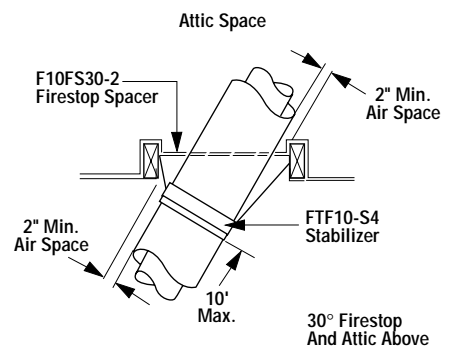
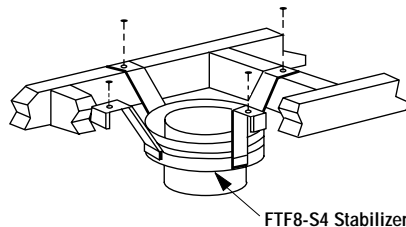

Figure 21
Figure 26
It may be necessary to assemble the chimney at 30° when passing through the floor or ceiling area. Use the F10FS30-2 firestop spacer as shown in Figures 21 and 22. Support the chimney at floor or ceiling penetration with a FTF10 stabilizer if distance of chimney below ceiling is 10' or more. Maintain 2" minimum air space to combustibles from chimney sections.
Install the Model FTF10-S4 stabilizer by fitting inner section down into respective section of proceeding flue pipe and locking outer stabilizer section into place over the outer chimney pipe. Position for proper clearance through framed opening and nail straps securely (under tension in "shear") into place on framing. Use 8d nails. Attach successive lengths of chimney pipe directly to stabilizer using same techniques as described in Step 4 (*Figure 26*).
Step 1. Use Offset Chart to determine amount of horizontal offset (A) and height (B) for various chimney section assemblies.
Step 3. Use Elevation Chart as job estimator only. Add necessary firestop spacers and stabilizers as required. Firestop spacers must be used as shown in Figures 21 and 22 and stabilizers as shown in Figure 26.